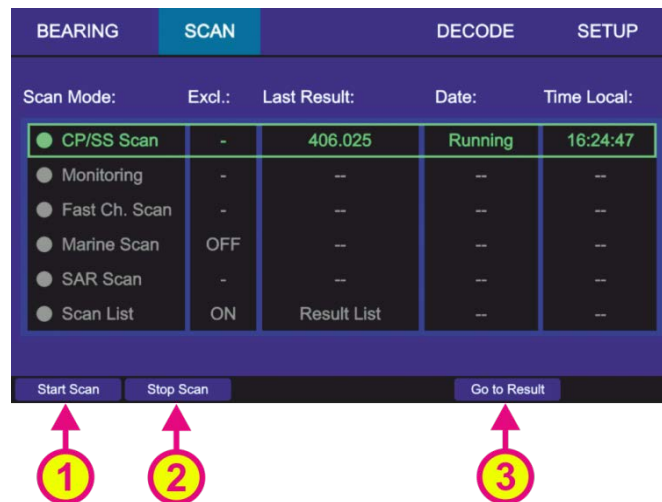

Fig. 22 "Cospas-Sarsat Scan" mode has been activated
- To start the "Cospas-Sarsat Scan" mode select the corresponding line on the "Scan" page and press "OK" or the hotkey "Start Scan" (s. Fig. 22, position 1)
- Pressing the hotkey "Stop Scan" (s. Fig. 22, position 2) will terminate the current scan mode and change to the bearing of the frequency, that was set before the scan mode has been activated.
- Pressing the hotkey “Go to Result” (s. Fig. 22, position 3) during the Cospas-Sarsat scan is running, will terminate the scan mode, adopt the frequency which was found in this scan last time and change to the “Bearing” page.